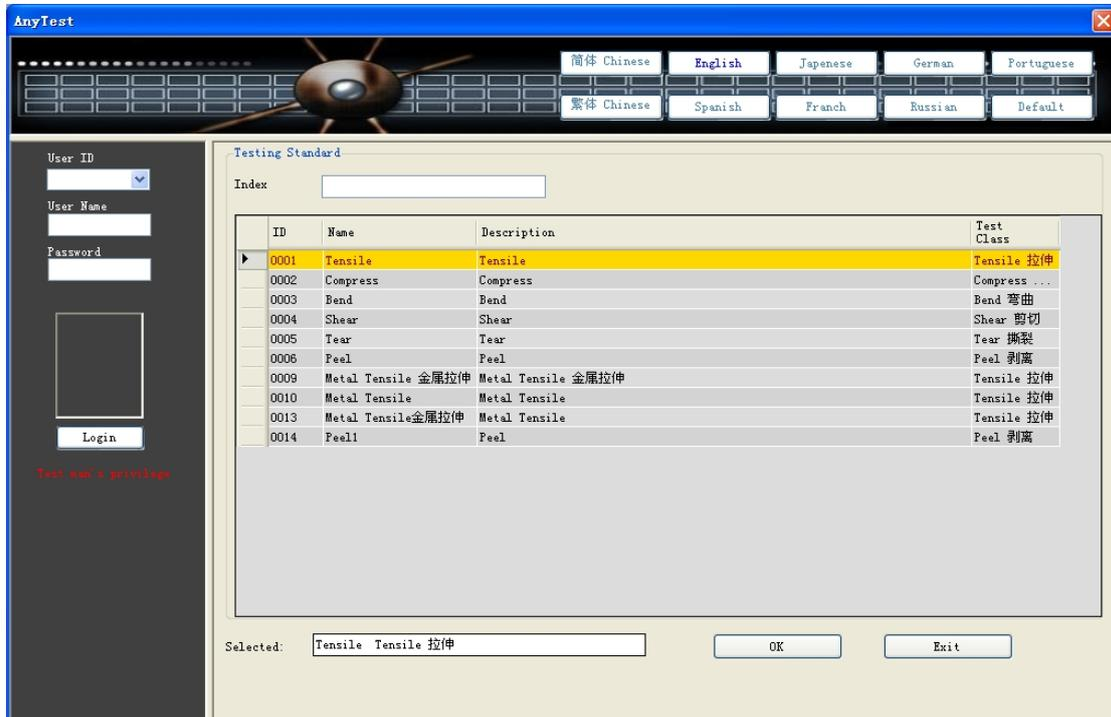

Figure 5-1
Run the test program into the login form, as shown in Figure 5-1;
- Run the test program into the login form, as shown in Figure 5-1;